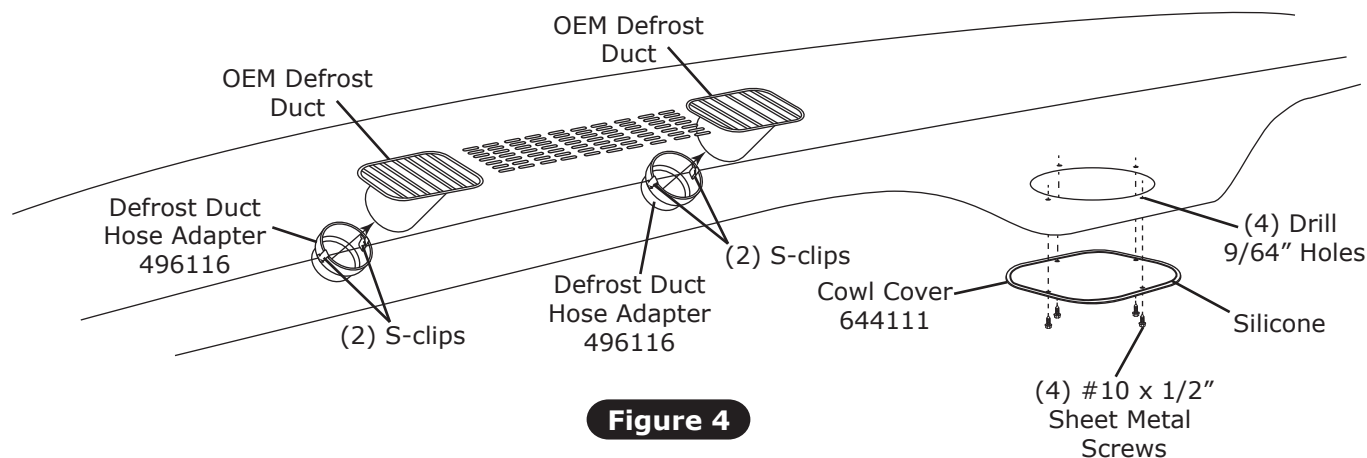

Figure 4
1. Install (2) S-clips onto defrost duct hose adapters (See Figure 4, below).
2. Install defrost duct hose adapters onto OEM driver and passenger side defrost ducts as shown in Figure 4, below.
3. Hold cowl cover under dash and mark the (4) mounting holes.
4. Drill (4) 9/64" mounting holes under dash.
5. Apply a 1/4" bead of silicone around the back side of the cowl cover as shown in Figure 4, below.
6. Secure cowl cover to fresh air hole using (4) #10 x 1/2 sheet metal screws as shown in Figure 4, below.